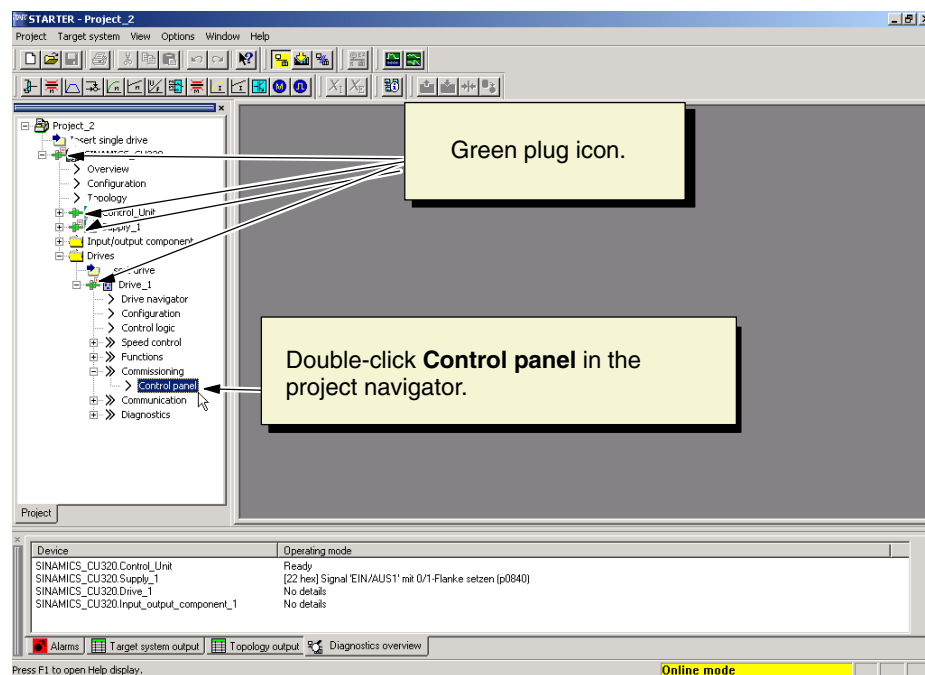

Fig. 4-2 Control panel
Once you have established a connection with the target system and loaded the project to the target system, a green plug icon appears in front of the drive unit and other configured components in the project navigator. This indicates that the project data in STARTER and the target system is consistent (see Fig. 4-2).
1. Double-click **Control panel** in the project navigator under **Drive_1 > Commissioning** (see Fig. 4-2).